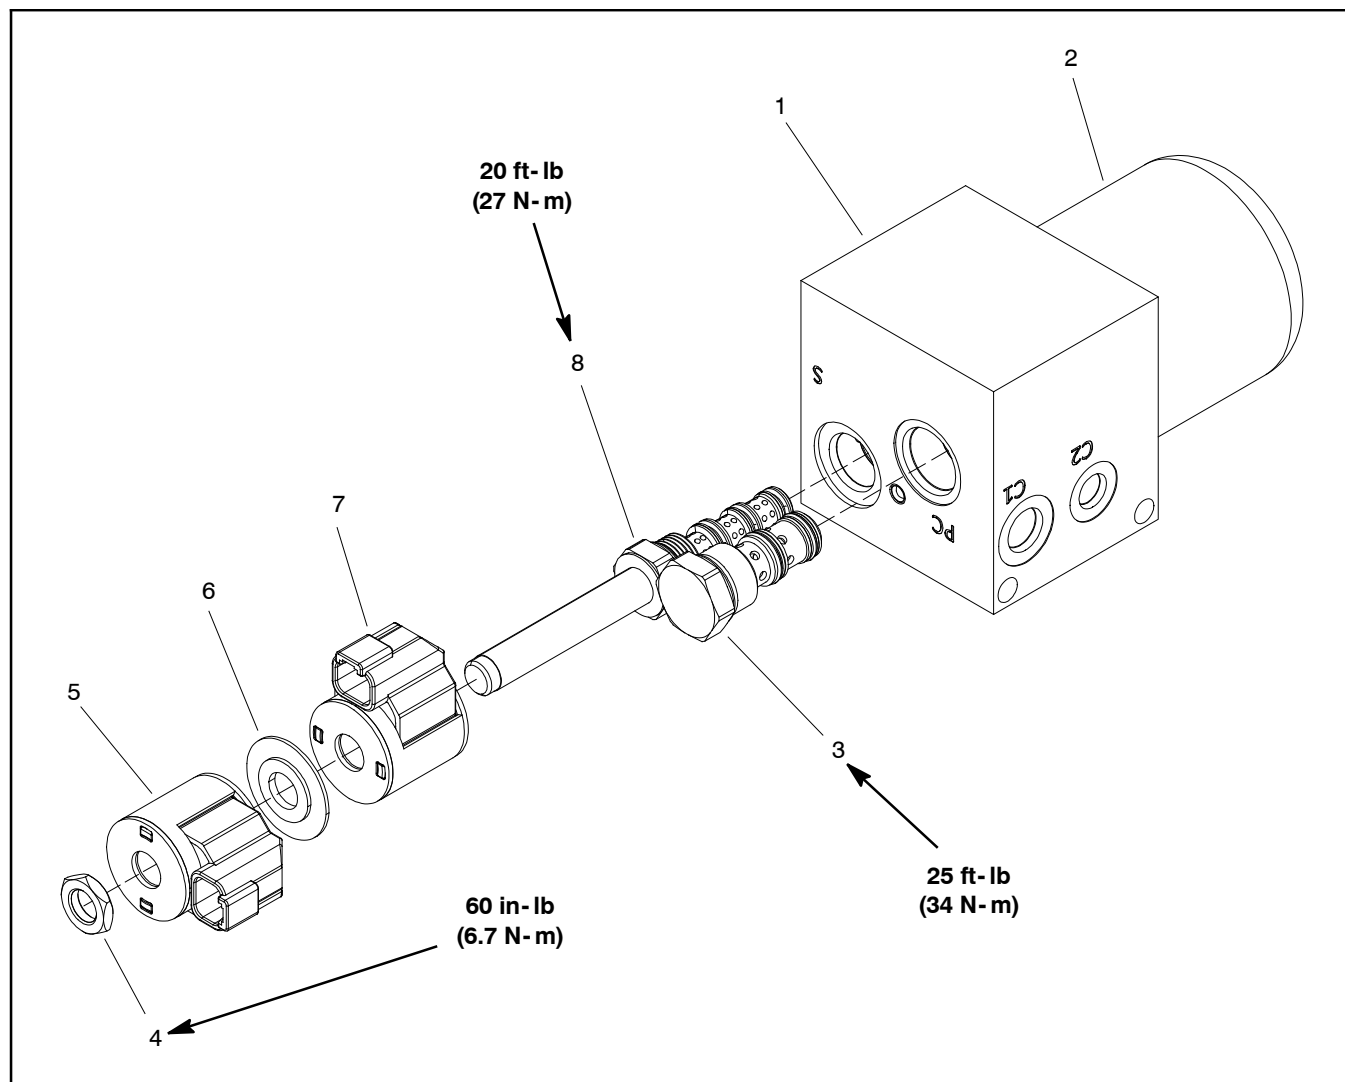

Figure 30
- D. Torque cartridge valve using a deep socket wrench to value identified in Figure 30.